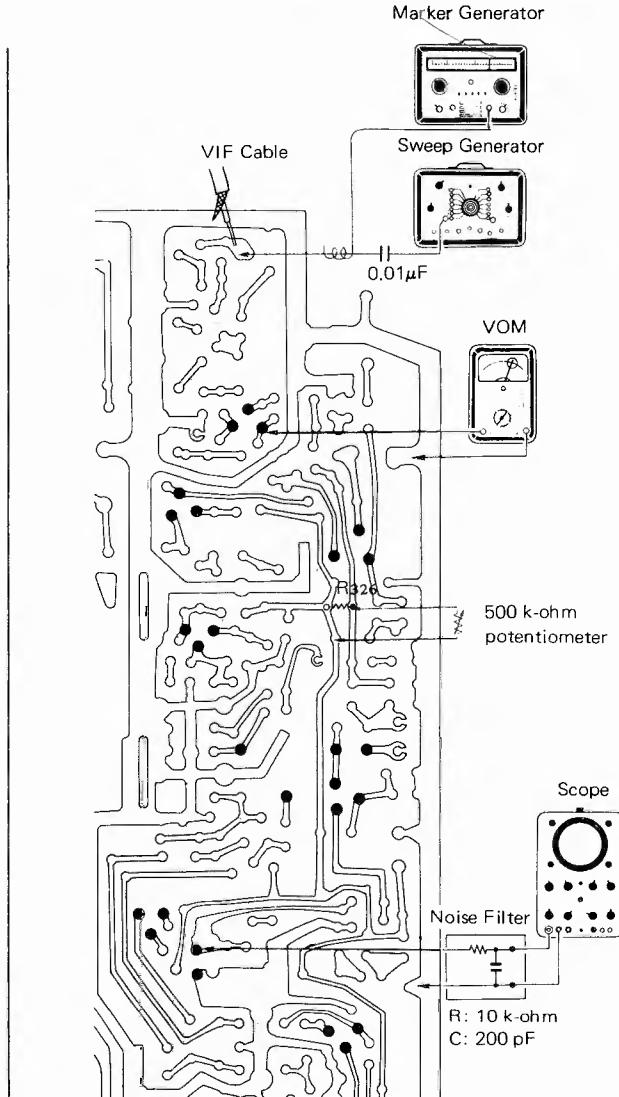

Fig. 15 Preparation for VIF adjustments.
2. Connect the VOM to the emitter of 1st VIF amplifier Q301. (See Fig. 15)
6. Connect a 500 k-ohm potentiometer across resistor R326 as shown in Fig. 15.
7. Unsolder the VIF cable which is connected to the BF circuit board in Fig. 15.
8. Connect a sweep generator to the point where the VIF cable was connected. Use a 0.01 μ F isolation capacitor as shown in Fig. 15.
10. Connect a scope to the VIF output terminals (across D401) through a noise filter consisting of a 10 k-ohm resistor and 200 pF capacitor as shown in Fig. 15.
2. Connect the 500 k-ohm potentiometer across resistor R326. (See Fig. 15)